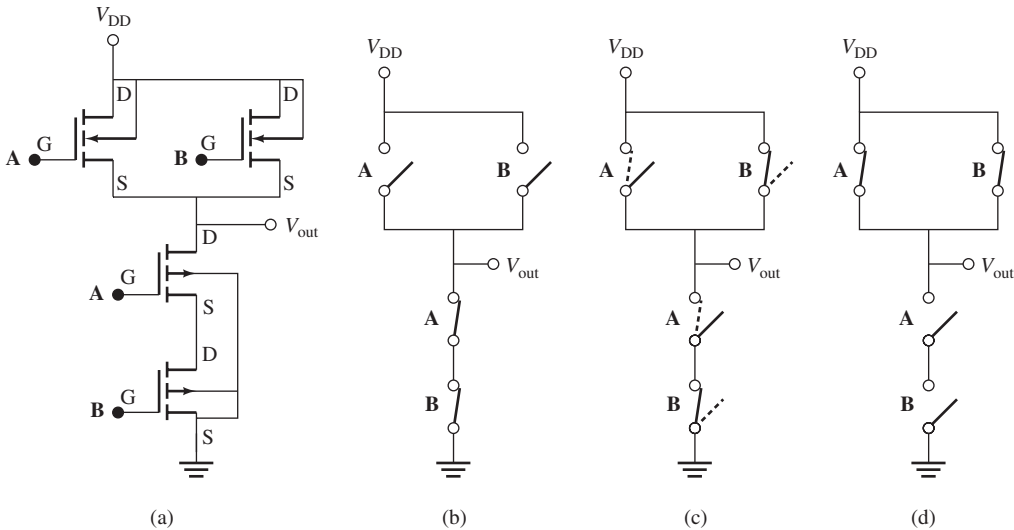

FIGURE 8.76 The logic gate for Example 8.25.
Develop the truth table of the two-input gate for the circuit shown in Figure 8.76(a). That is, determine the output voltage V_{out} in terms of inputs A and B in binary (a high (1) or low (0), or variable, when both are 0, both are 1, and one is 1 and the other is 1. What is this operation?
It is clear that when both A and B are low (0), the NMOS will be OFF and the PMOS will be ON, thus, the output will be connected to the ground, i.e., the output will be low (0). This scenario is shown in Figure 8.76(b). When one of these inputs is high (1) and the other is low (0), the two series PMOSs block the output to be zero while one of the two parallel NMOSs allows connection to the V_{DD} . This scenario is shown in Figure 8.76(c). When both A and B are high (1), the output will be connected to V_{DD} , while the two PMOSs avoid connection to the ground. Thus, the output will be high (1) [see Figure 8.76(d)]. The solution is shown in Table 8.5. Based on this table, the output will be an OR gate (see Chapter 10).
TABLE 8.5 The Truth Table for Figure 8.76(a)